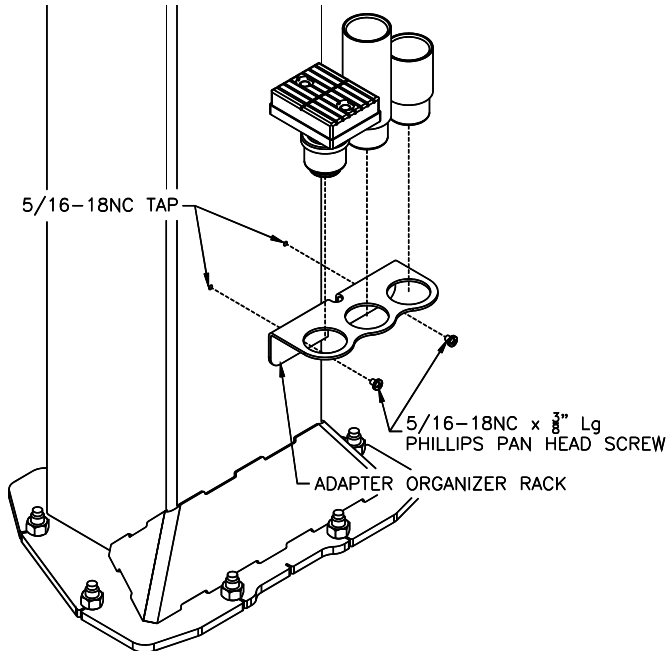

Fig 22-Adapter Rack Installation
- 63) Locate the two pre-drilled holes on the back of each column 19" up from the top of the base plate and tap 5/16-18. Center the adapter rack and attach with 5/16-18NC Phillips Pan Head Screws supplied, **Fig. 22**.